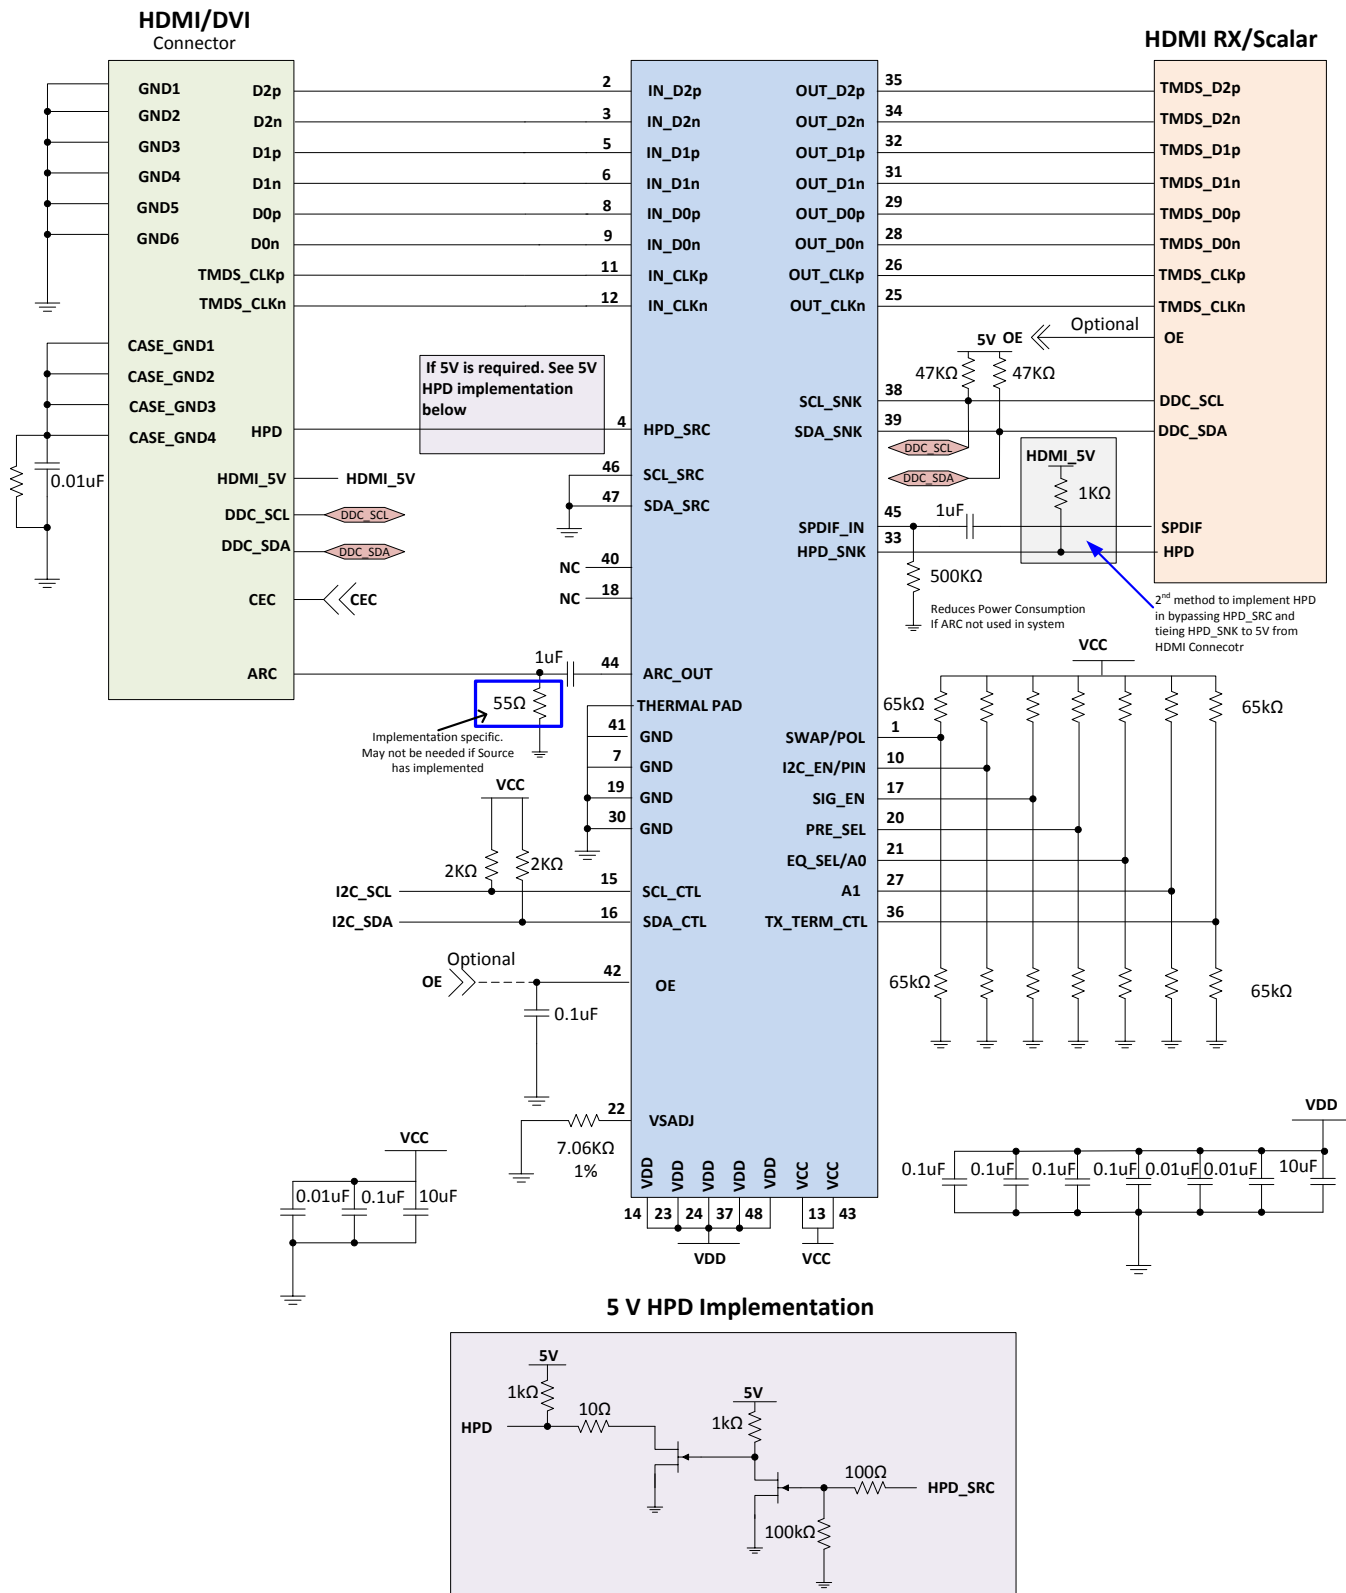
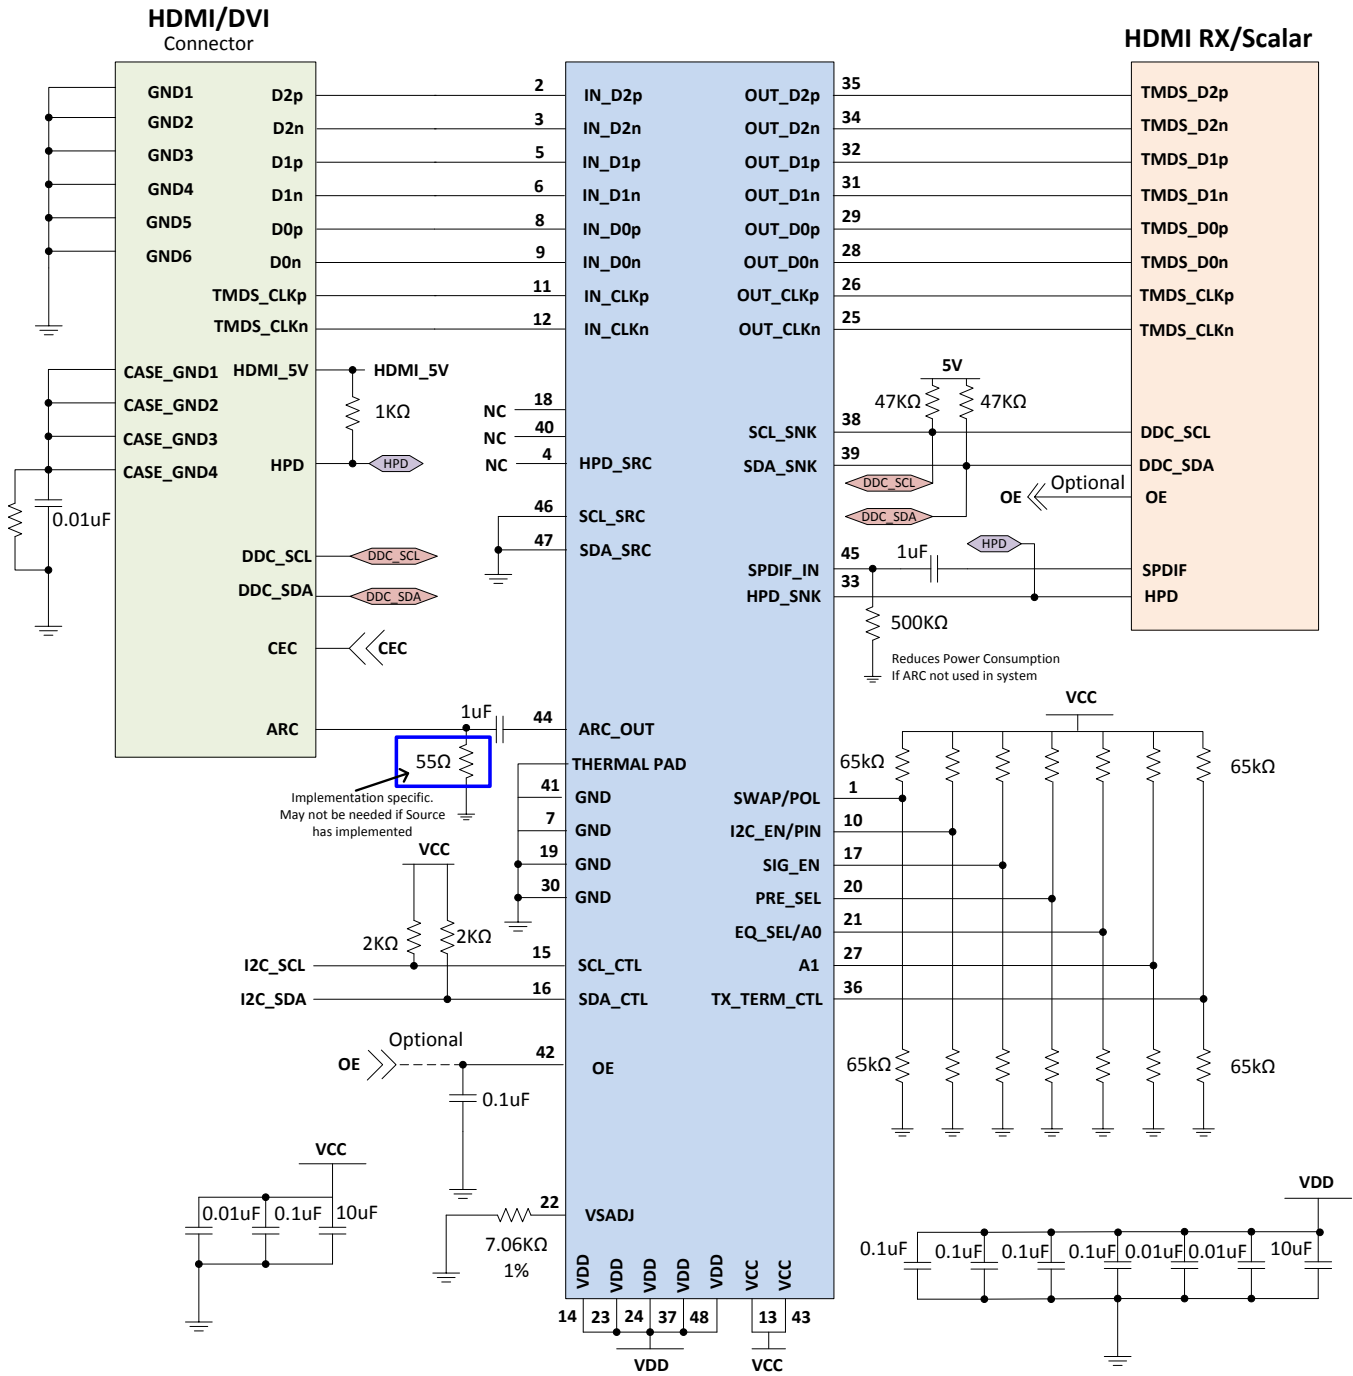

Figure 35. TMDS181 in Sink Side Application (Including 5 V HPD Implementation)
Figure 36. TMDS181 in Sink Side Application
For a sink side application, HPD needs consideration. The TMDS181 drives the HPD signal to 3.3 V, which meets requirements, but if 5 V HPD signaling is required, the two circuits shown in Figure 35 are required. As sources are not consistent in implementing all aspects of the DDC link, TI recommends to configure the TMDS181 as per Figure 35. Another consideration for how HPD is implemented is the architecture and behavior of the HDMI RX/scalar. The standard requires sinks to clear the TMDS\_CLOCK\_RATIO\_STATUS in the SCDC when either +5 V power signal from source is not present or when hot plug detect pin goes low for 100 ms or more. When HPD goes low, the TMDS181 automatically clears this bit. The TMDS181 expects the TMDS\_CLOCK\_RATIO\_STATUS bit to be set with a write from source to receiver/sink. If this does not happen, the TMDS181 may come up in the wrong configuration. Until the HDMI ecosystem matures, TI recommends to implement sink application as per Figure 36 to address this.
Designing the TMDS181 into a sink side application requires similar care as for a source side application. However, because compliance is at the receiver, there is more flexibility for the transmitter to the HDMI RX/chipset link. Because many different reflection points are possible, the TMDS181 allows for swing, pre-emphasis, and transmitter termination control that can help minimize these reflections. The TMDS181 has a 3.3 V HPD drive capability which meets requirements. In cases where the designer needs to support 5 V HPD drive capability, the circuit shown in Figure 35 is required.
- Use the typical application Figure 35 for information on control pin resistors.
- See schematics in Figure 35 on recommended decoupling capacitors from VCC pins to ground.
- Because the HDMI ecosystem supporting 4k2kp60 is not mature, TI recommends to design the TMDS181 into the sink application as shown in Figure 36.
The DDC circuitry inside the TMDS181 allows multiple stage operation (see Figure 36). The retimer devices can be connected to any of the bus segments. The number of devices that can be connected in series is limited by repeater delay/time of flight considerations for the maximum bus speed requirements.